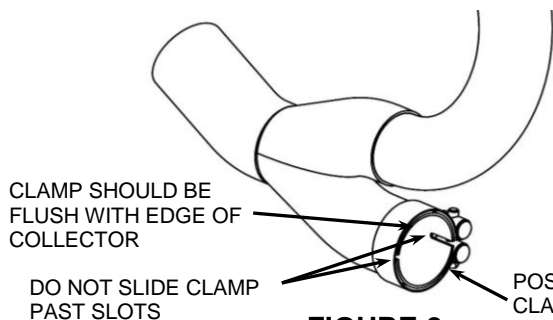
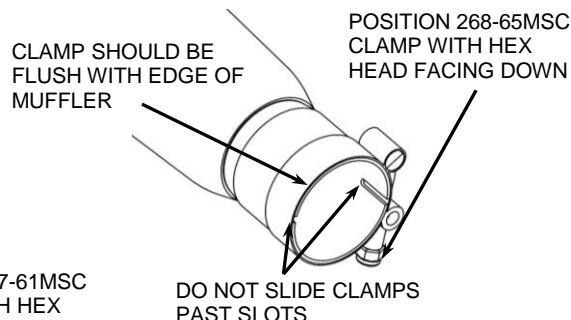

FIGURE 2
FIGURE 3
8. Position the supplied #27-61 MSC clamp with hex head facing the direction shown in **FIGURE 2** over the inlet of the collector on the rear headpipe.
10. Position the muffler clamp with hex head facing the direction shown in **FIGURE 3** over the inlet of the muffler.
12. Secure the muffler assembly to the exhaust mount bracket using the (2) supplied 5/16"-18 bolts but **DO NOT TIGHTEN**.
13. Make sure the muffler assembly, front headpipe, and rear headpipe are aligned properly and tighten in the following order; headpipe flanges to the cylinders (slowly tightening opposing nuts), front headpipe clamp, muffler clamp, and finally the muffler assembly to the exhaust mount. (NOTE: The muffler clamp and headpipe clamp should be flush with the end of the inlets when tightened. See **FIGURE 2 & 3**. If the clamps are slid past the slots on the inlets the clamps will not tighten properly).